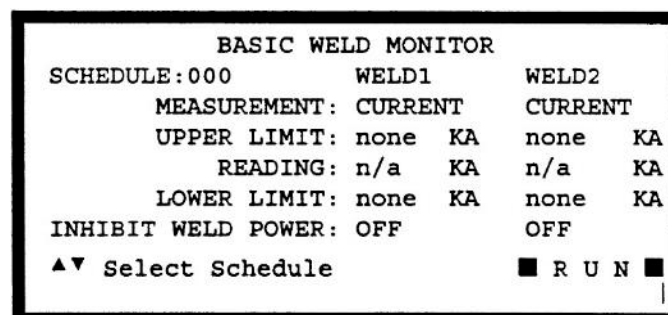

Figure 7-4. Weld Schedule in **PROGRAM** State -- Power Up Weld Schedule Programmed.
- 5 The Alphanumeric **PROGRAM** screen will now appear as shown in Figure 7-4. Save the settings for Schedule 003. The remaining schedules need to be program-med.